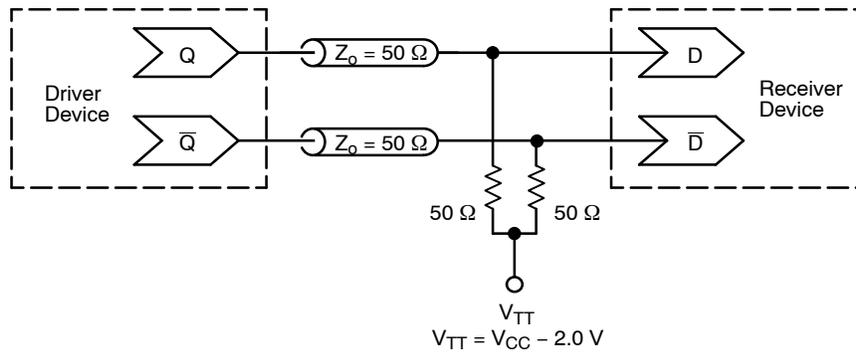
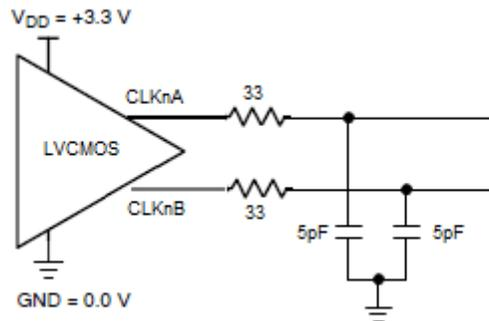

Figure 9. Typical Termination for LVPECL Output Driver and Device Evaluation (See Application Note AND8020/D – Termination of ECL Logic Devices.)
Figure 11. Typical LVC MOS Output Test Setup for Evaluation
- 13. Measured by using a 25 MHz crystal as clock source. All LVPECL outputs are loaded with an external $R_L = 50\ \Omega$ to $V_{DDO} - 2\text{ V}$ (Figure 9); LVCMOS outputs loaded with $R_S = 33\ \Omega$, $C_L = 5\text{ pF}$, 5" 50 Ω trace, (Figure 11).